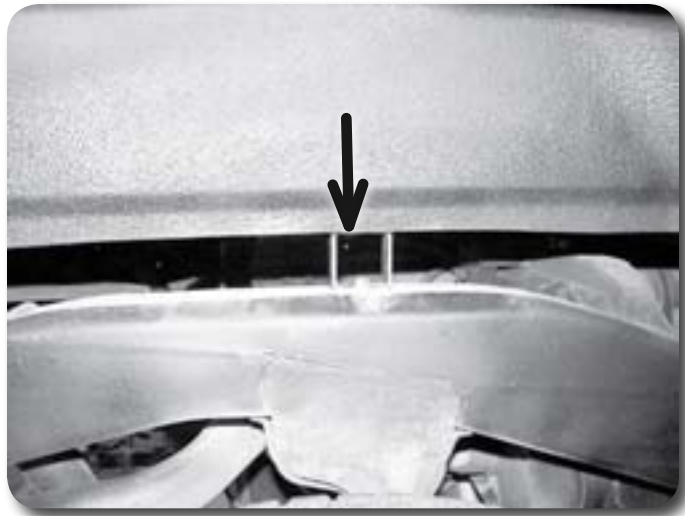

Figure 26
45. Remove the plastic disks from the frame rails where the bed originally rested on the frame. Install the provided metal overload spacers at these points and fasten them to the frame rail with 5/16" x 1" self-tapping bolts in the existing holes in the frame **Figure 26**.